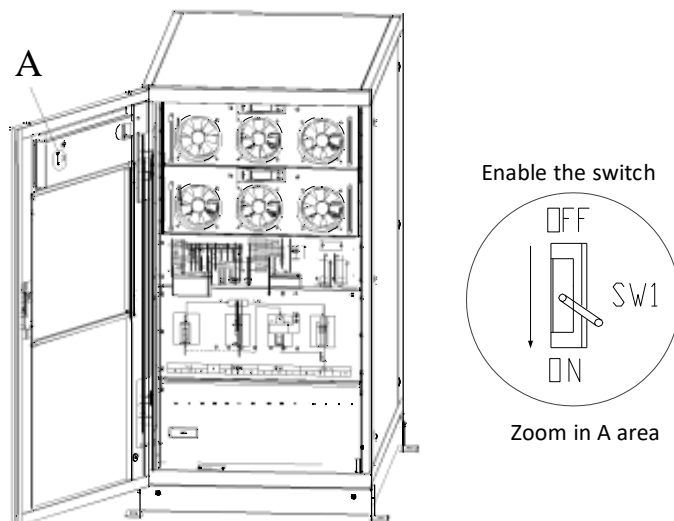

Figure4-2 Enable the switch
- 2) Press and hold the BYP key on the operator control panel for longer than two seconds and the system transfers to bypass mode. This needs to enable the switch behind the front door. As shown in Figure4-2.